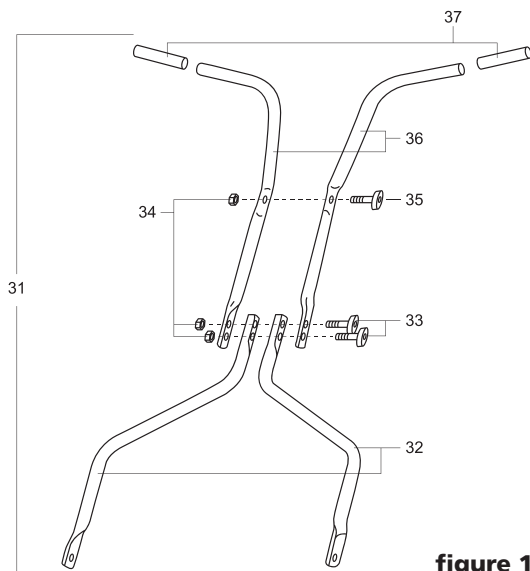

figure 1
1. Lay out the parts of the handle as shown in figure 1.